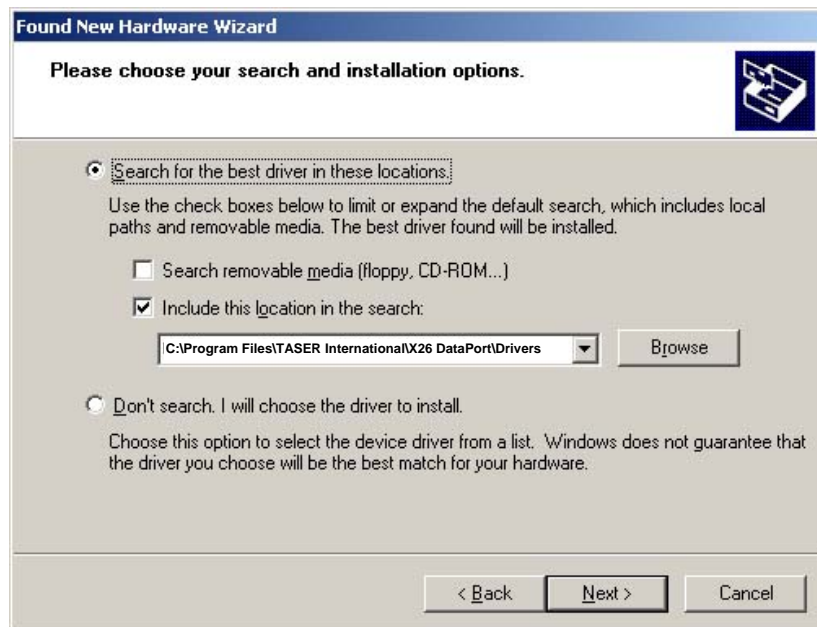

Figure 54
- a. Type the following line into the text box (Figure 54):